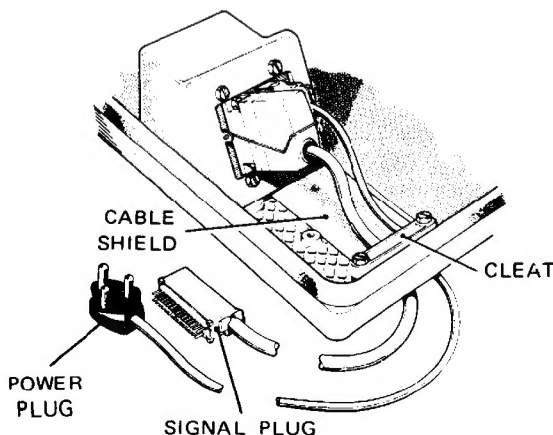

Fig. 2.4 SIGNAL AND POWER PLUGS
- 2.15 If it is necessary to assemble power and signal cords; remove the cable cleat Fig. 2.4, which is secured by two bolts. This will enable the cable shield to be lifted clear of the base tray, thus uncovering the cable entry aperture.